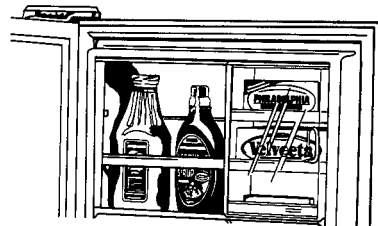

FIGURE 63
**Dairy Storage.** Store butter and cheese in an adjustable dairy module complete with three food storage containers and three dairy compartments with sliding door. See Figure 63.